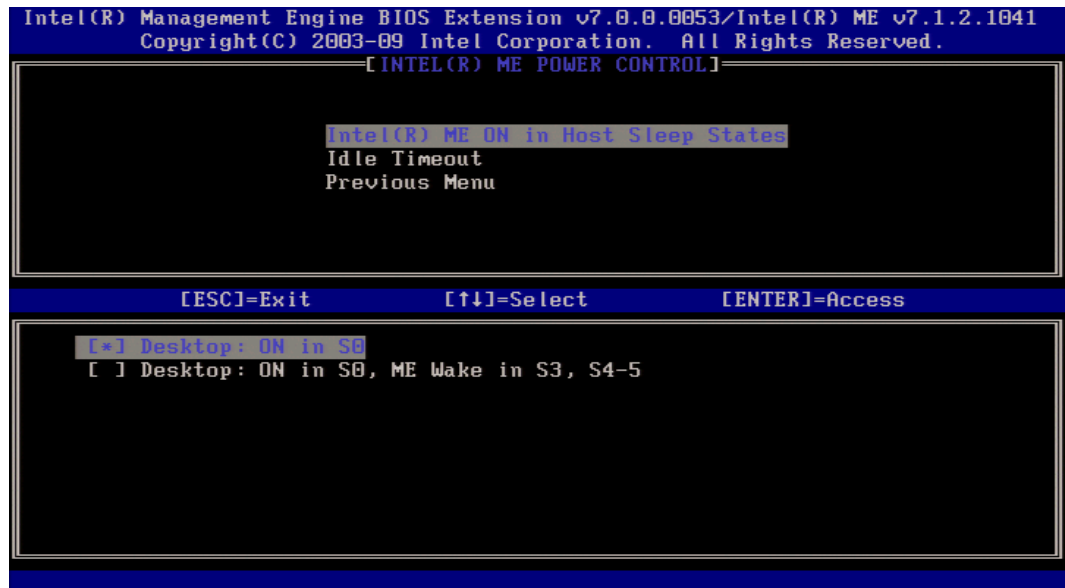

Figure 6. Intel ME Host Sleep States Screen
- a. Intel ME ON in Host Sleep States (Figure 6).